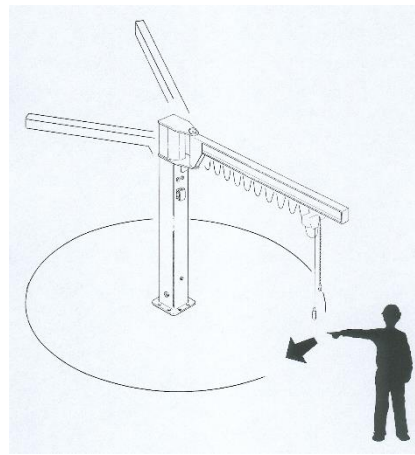

fig.18
- Check the suitability of the manoeuvre spaces (rotation) available for the jib crane, especially if it operates in areas where there are other cranes or other manufacturing machines (fig.18);